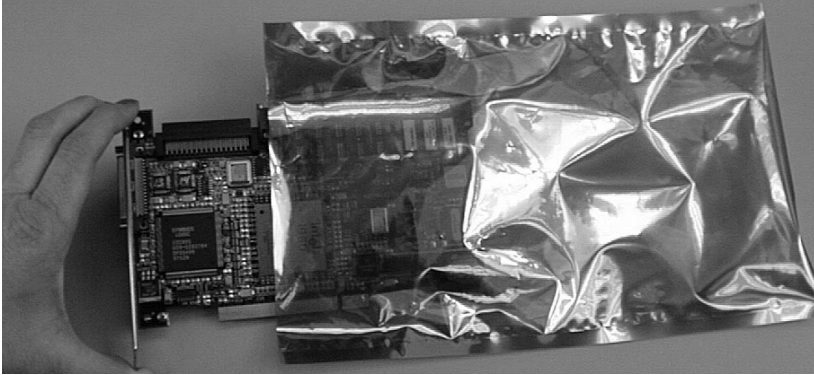

Figure 2-18. Remove Controller Board from the Anti-Static Bag
3. Remove the AcceleRAID 150 controller board from the anti-static bag as shown in Figure 2-18.